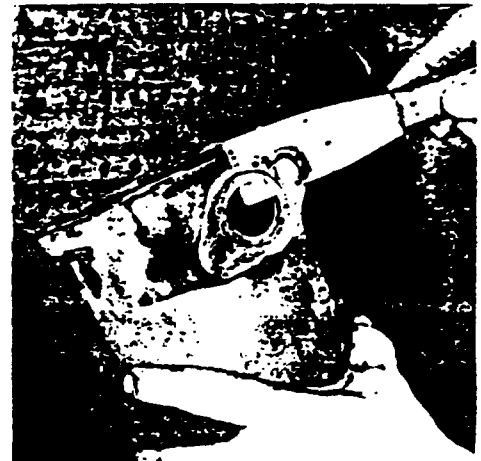

Figure 2-291. Scraping Oil Supply Line Gasket
4. Remove oil supply line gasket. See Figure 2-291.